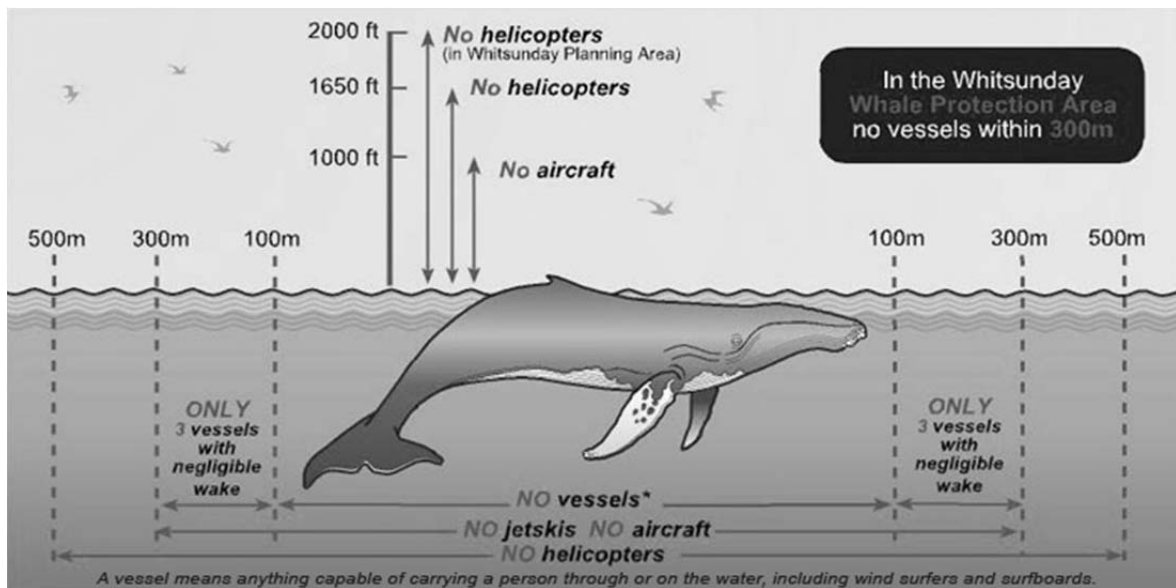

Figure 6 Approach distances for whales
- When operating a vessel or aircraft (check safe distances diagram, Figure 6 on page 27):